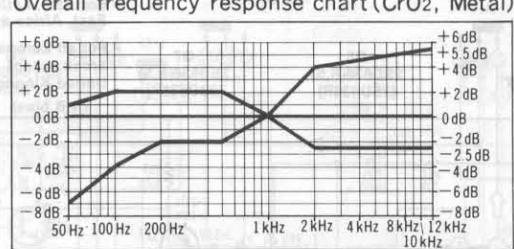

Fig. 17
<p>8. Switch the tape selector to CrO2, change test tape to QZZCRX, and record 50Hz, 100Hz, 200Hz, 500Hz, 1kHz, 4kHz, 8kHz, 10kHz and 12.5kHz signals. Then, playback the signals and check if the curve is within the limits shown in the overall frequency response chart for CrO2 tapes (fig. 17).</p> <p>9. Switch the tape selector to Metal, change test tape to QZZCRZ, and record 50Hz, 100Hz, 200Hz, 500Hz, 1kHz, 4kHz, 8kHz, 10kHz and 12.5kHz signals. Then, playback the signals and check if the curve is within the limits shown in the overall frequency response chart for metal tapes (fig. 17).</p> <p>10. Confirm that bias currents are approximately as follows when the tape selector is set at different positions.</p> <p>* Read voltage on VTVM and calculate bias current by following formula:</p> $\text{Bias current (A)} = \frac{\text{Value read on VTVM (V)}}{10 (\Omega)}$ <p>around 410μA (Normal position) around 545μA (CrO2 position) around 800μA (Metal position) } : measured at TP1 (L-CH) and TP2 (R-CH)</p>